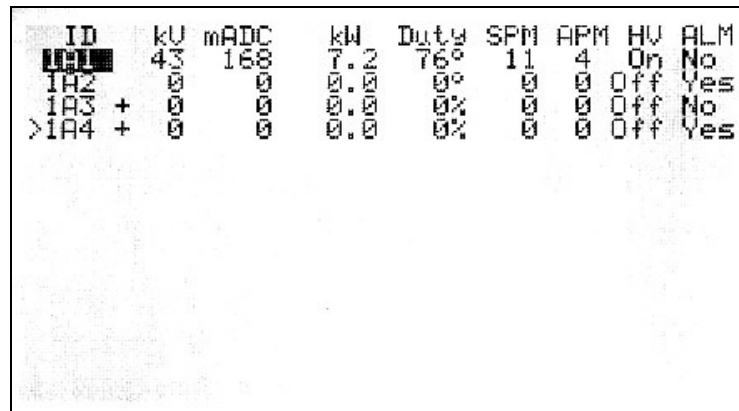

Figure 1-3
- The GVC addresses that are to be displayed on the network display screen must also be defined. The display range is set in the **Netwk Beg to End** parameters. Once all these parameters are set and the **Network** screen is selected, the network summary screen will be displayed (fig. 1-3).